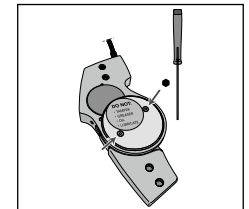

Fig. 4
2. Use the supplied Allen screwdriver to loosen the two screws on the medial (stainless steel) Cover Plate and remove it (**see Fig. 4**).